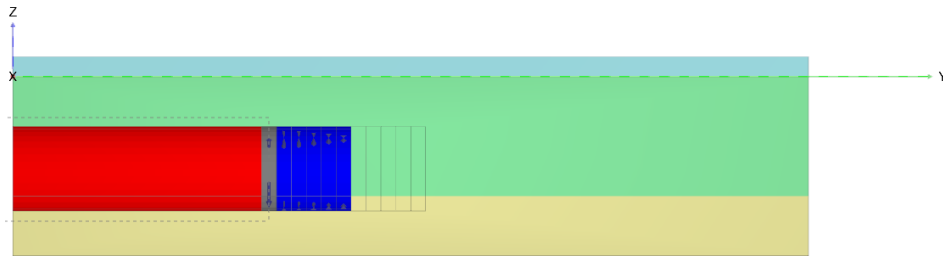

Figure 80: Selection of plate (0 m - 25 m)
- a. Select the **Select plates** option in the appearing menu. Select the surfaces between 0 m and 25 m in the model to which plates are assigned (Figure 80 (on page 107))